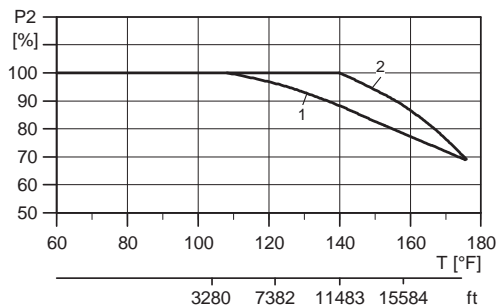

Fig. 4 Relationship between motor output ( $P_2$ ) and ambient temperature/altitude
**Example:** From fig. 4 it appears that  $P_2$  must be reduced to 88 % when a pump with a NEMA Premium efficiency, ML motor is installed 15,584 feet above sea level. At an ambient temperature of 167 °F,  $P_2$  of an energy efficient motor must be reduced to 74 % of rated output.